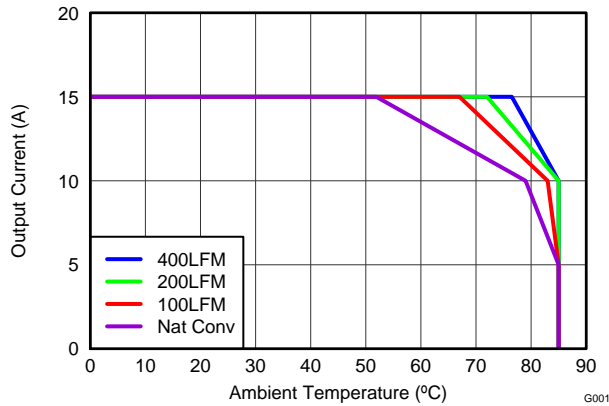
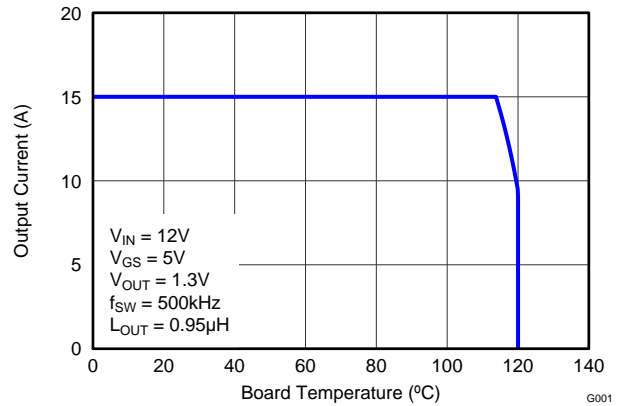

Figure 3. Safe Operating Area – PCB Horizontal Mount (1)
Figure 4. Typical Safe Operating Area (1)
The SOA curves in the CSD87381P data sheet provides guidance on the temperature boundaries within an operating system by incorporating the thermal resistance and system power loss. Figure 3 to Figure 4 outline the temperature and airflow conditions required for a given load current. The area under the curve dictates the safe operating area. All the curves are based on measurements made on a PCB design with dimensions of 4-inches (W) x 3.5-inches (L) x 0.062-inch (T) and 6 copper layers of 1-oz. copper thickness.